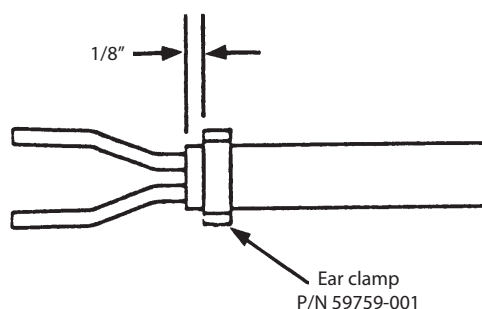

Figure 5: Strain relief
4. Place a strain relief clamp on the wire and secure it onto the outer sheath, approximately 1/8 inch from the end, by crimping each "ear" alternatively with the wire cutting pliers. See Figure 5.